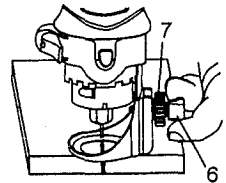

Fig. 5
1. Adjust freehand sole plate depth by loosening the depth gauge locking knob (6) and rotating the adjusting knob (7) to move the sole plate in or out required (see Fig. 5).
4. Adjust depth of freehand sole plate as shown in Fig. 5.
2. Adjust cutting bit depth to $1/8$ " longer than the thickness of the material being cut (see Fig. 5).